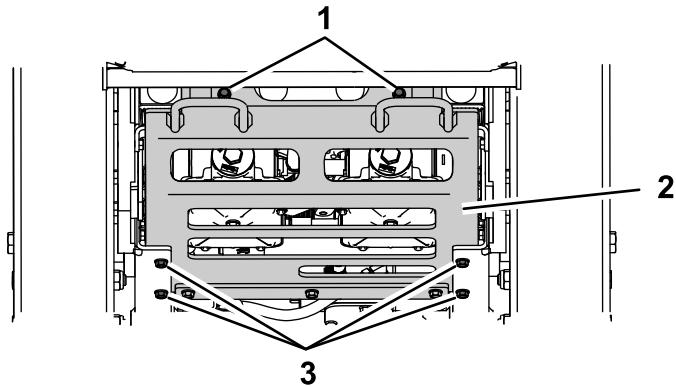

Figure 46
4. Remove the 6 bolts (2 rear, 4 side) from the skid plate and remove the skid plate (Figure 46).
15. Install the skid plate (Figure 46).